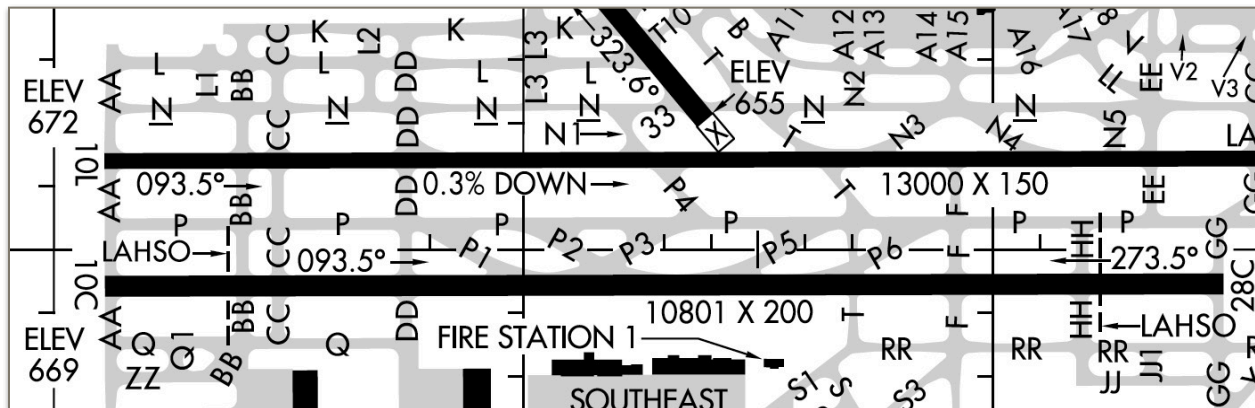

Figure 3. Runways 10C and 10L at Chicago O'Hare International Airport.
- Compare the runway exit locations Points of Curvature of your design with the locations of three high-speed exit locations at Chicago O'Hare runway 10C - designated P3, P5 and P6 (see diagram in Figure 3). Comment.